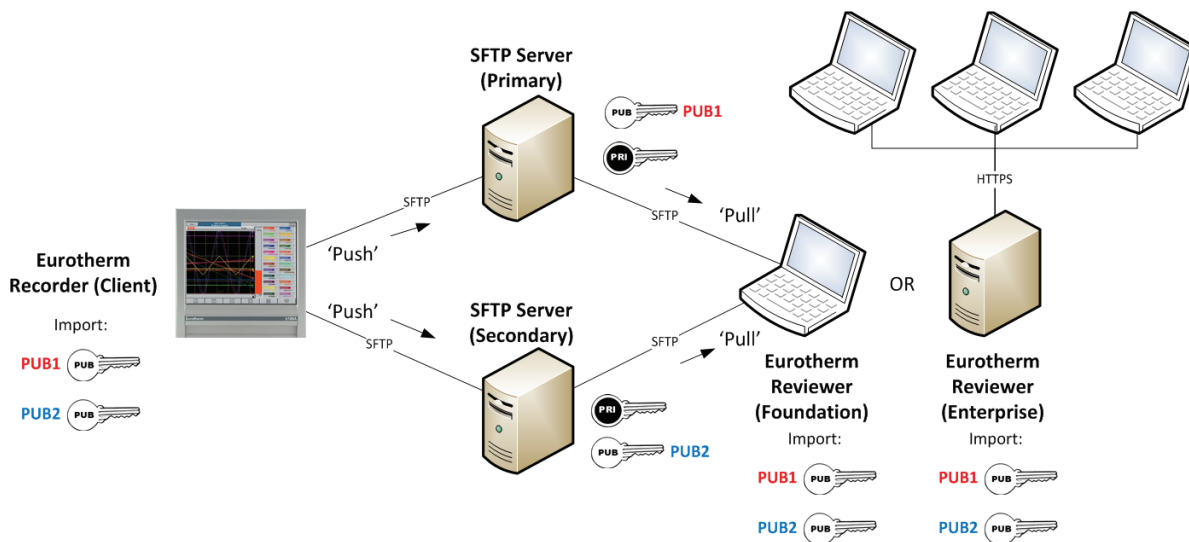

Figure 4.8b Secure FTP - Recorder as a Client
There are various system configurations, Figure 4.8b Secure FTP - Recorder as a Client displays a 6000 recorder as a client, connecting to two servers that are both running an SFTP server application.
- Export, or request a copy of the servers current SFTP public key. If connecting to multiple servers, the public key will be required from each server. (See *PUB1* and *PUB2* public keys, in “Figure 4.8b Secure FTP - Recorder as a Client” on page 270)
The Import Public key menu enables the user to import a SFTP Public key from an SFTP configured server. An example could be a recorder connected to and uploading, transferring data securely to an archive 'primary' server (or multiple servers), see "Figure 4.8b Secure FTP - Recorder as a Client" on page 270.